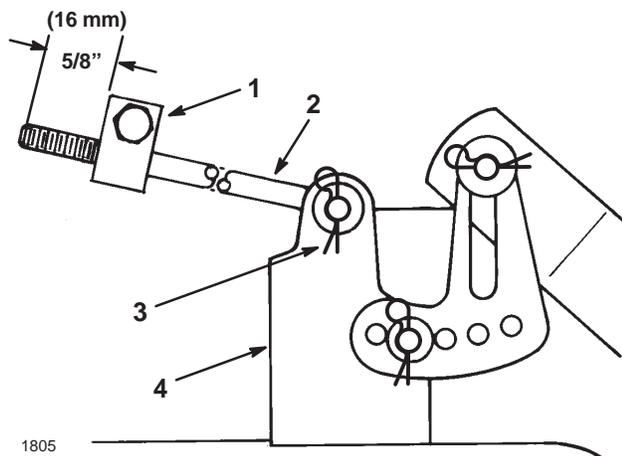

Figure 49
3. Measure the length of the rod extending out the front of the adjusting block on the sides of the chassis (Fig. 49). If the rod length is not $5/8''$ (16 mm), remove the hair pin cotter and washer from the end of the rod (Fig. 49), and turn the rod until the $5/8''$ (16 mm) dimension is obtained. Then install the end of the rod into the hole in the mower mount and secure in place with washer and hair pin cotter. Repeat procedure on the opposite side.